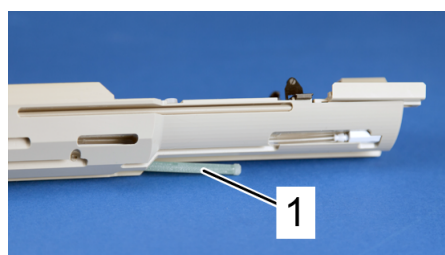

Figure 4.8: The lifting arm (1) is pushed out and the Animal Bed is lifted towards the Coilhead.
out the lifting arm (Figure 4.8 (1)). The lifting mechanism is force limited.